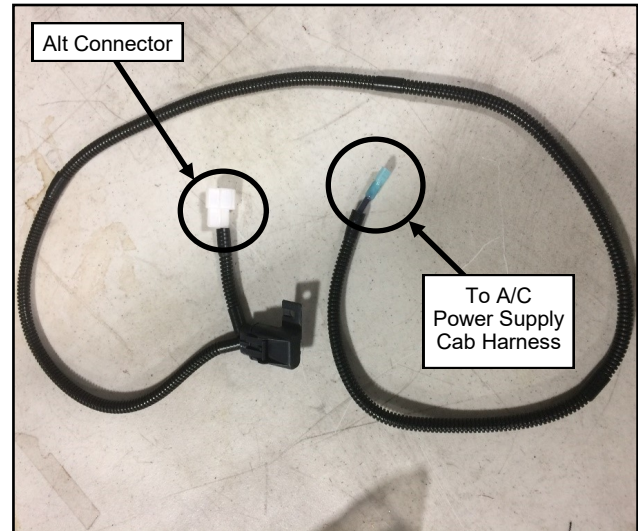

Fig. 4.8a (Connect Alternator Harness)
- 4.8 Connect 2-pin alternator end of Alternator Harness to the Vehicle's Alternator Connector found on Step 2.17. Next, connect male push-on terminal to A/C Power Supply Cab Harness' female push-on terminal. See figures 4.8a and 4.8b.